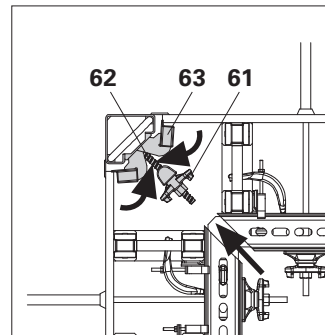

Fig. C3.03
2. Release wingnuts (61) on the SSE, push tie rod (62) forward (hammer) and swivel clamps (63) inwards. (Fig. C3.03)